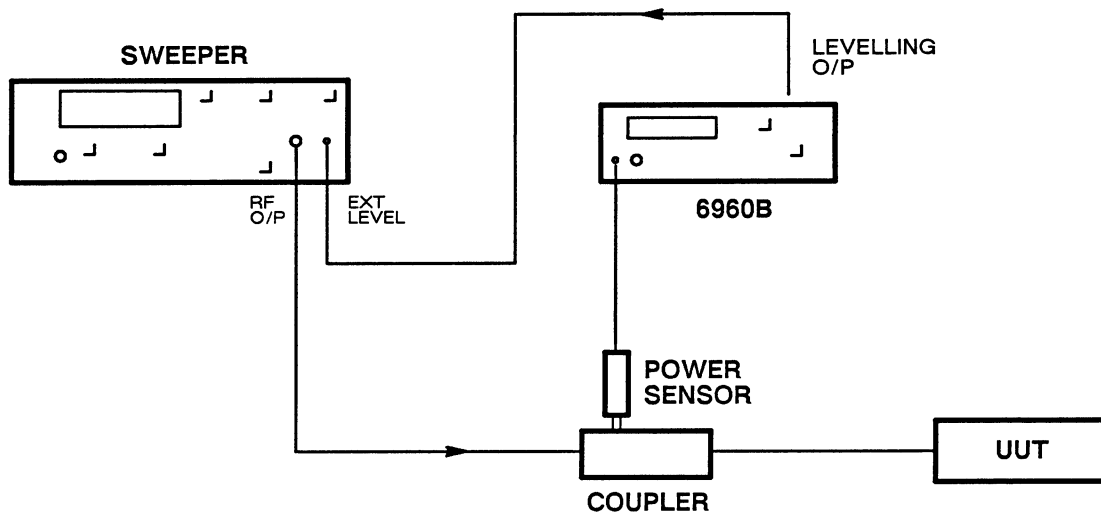

Fig. 3-4 Sweeper levelling using the 6960B
- Sweeper levelling – Use the LEVELLING OUTPUT for levelling of voltage tunable oscillators or sweep generators. (see Fig. 3-4).